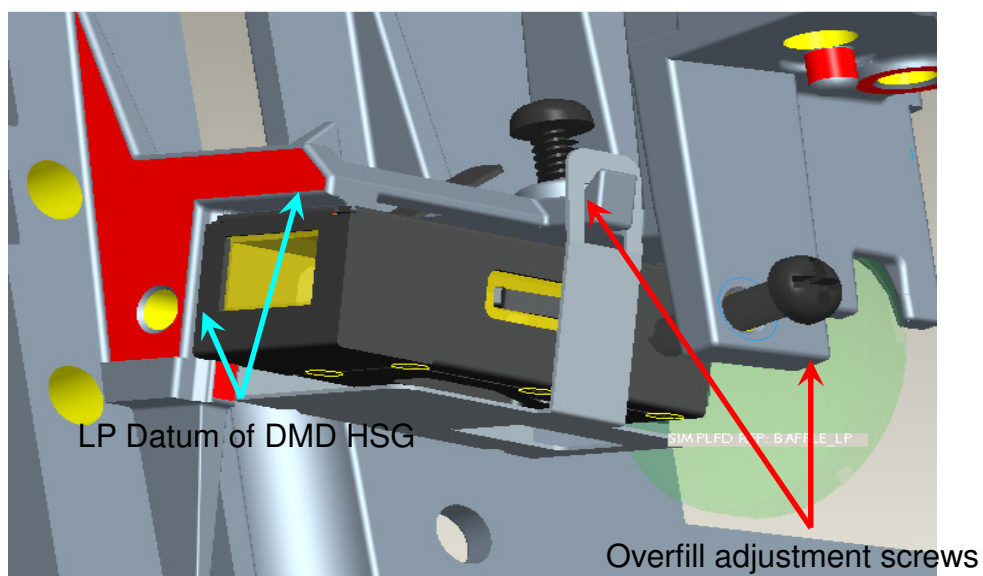

Fig. 1-3
- (3) Place LP Module on LP datum of "DMD HSG" and adjustment screw well (Fig. 1-3).